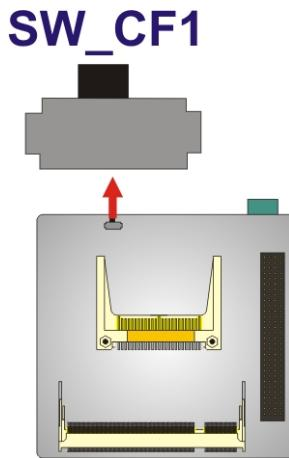

Figure 4-5: CompactFlash® Setup Jumper Location
**Jumper Location:** See Figure 4-5